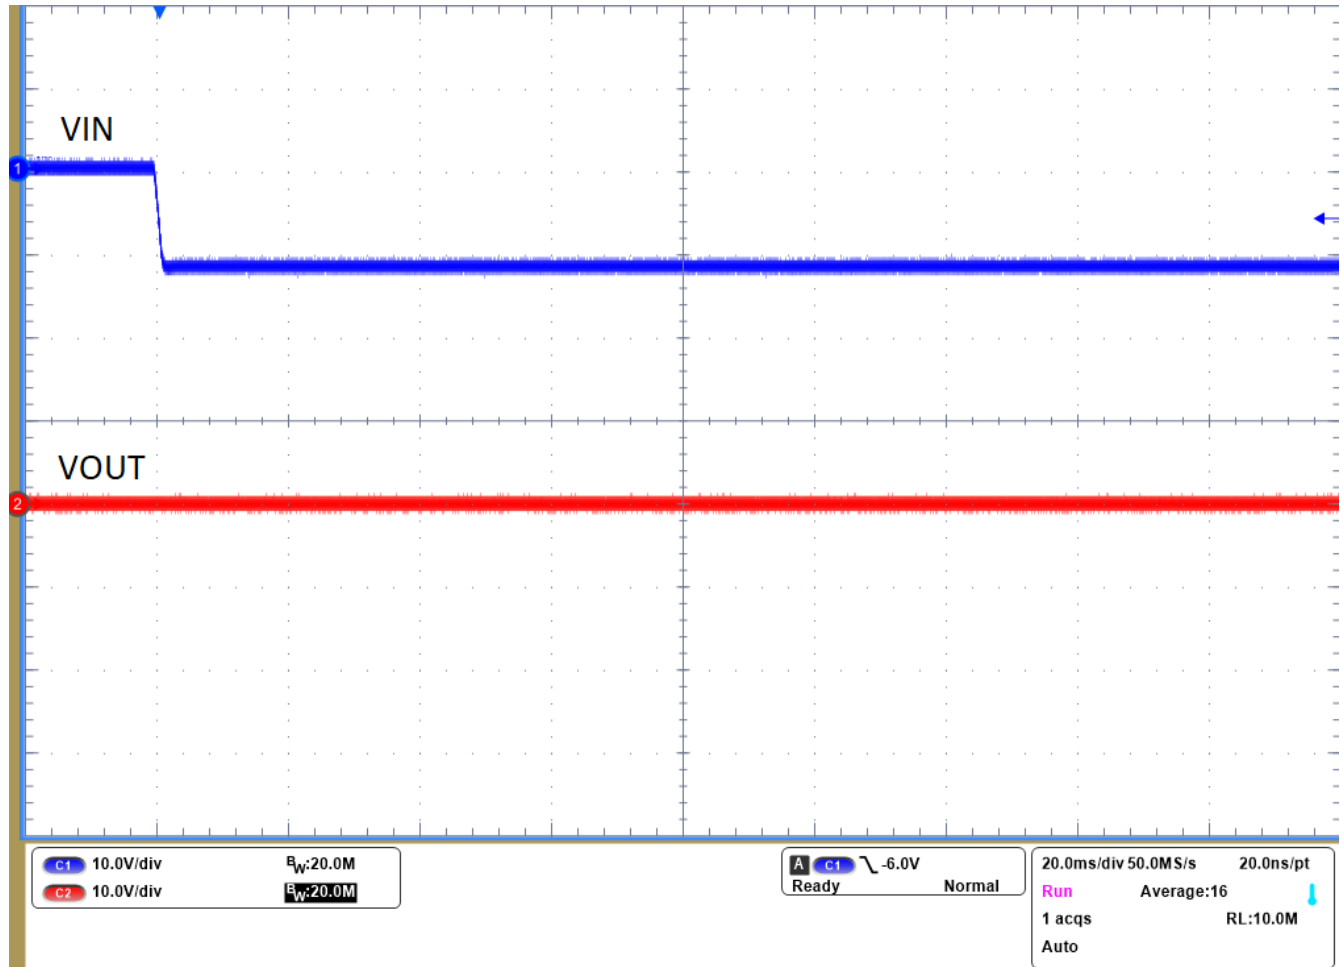

Figure 3-2. Startup Reverse Polarity (-12 V)
- Figure 3-2 shows that the output voltage remains at a constant 0 V in this situation.